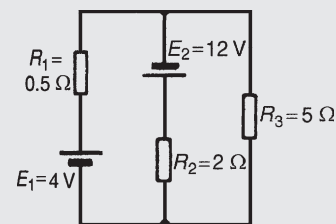

Figure 13.7
**Problem 3.** Determine, using Kirchhoff's laws, each branch current for the network shown in Fig. 13.7.